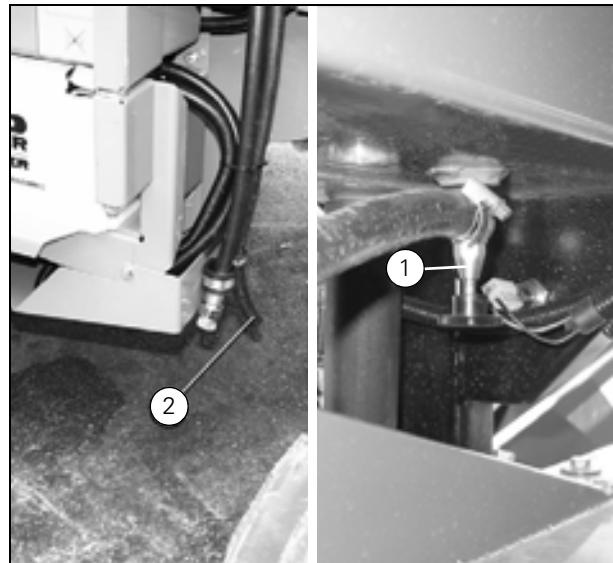
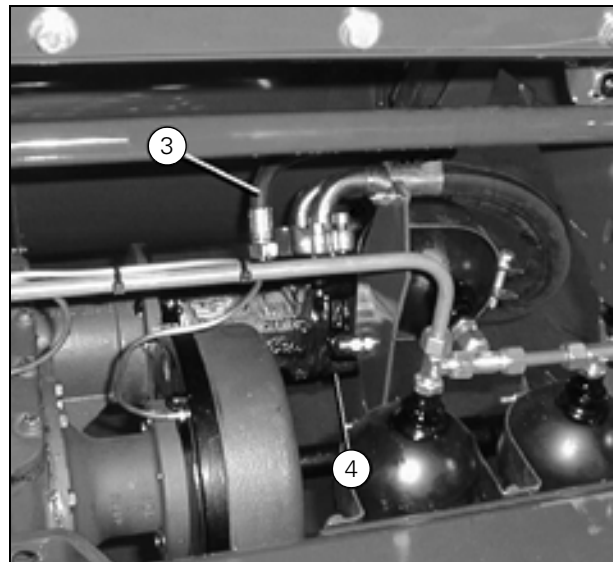

Fig. 4
Fig. 5
(Fig. 4) and (Fig. 5)
3. Dismount the plug (4) and let the coupler housing fill with oil. Remount the plug (4) and top up the tank to the max. mark.
8. Start the diesel engine and run it at lowest speed for 10 minutes. Bleed the oil motor at the plug (4), (Fig. 5).
5a Slacken the screw (4) (Fig. 5), and drain about two litres oil.